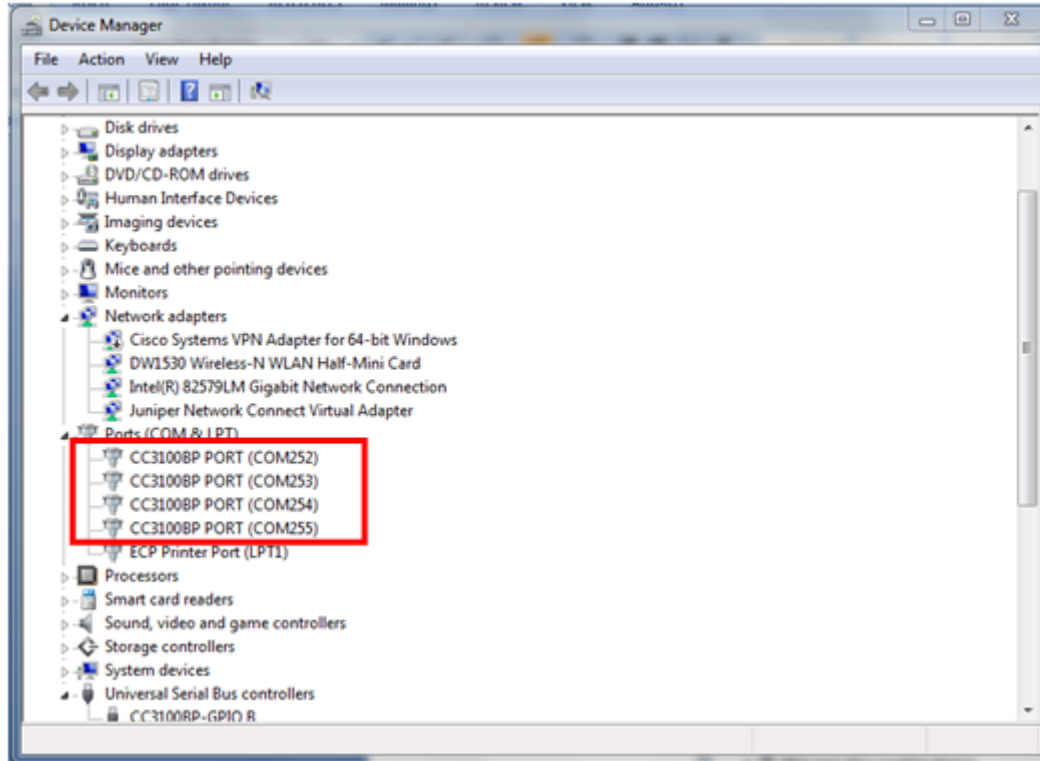

Figure 8. Device Manager
8. The CC3100BOOST will now be visible in the Device Manager as shown in Figure 8. The user may see two COM ports instead of four.